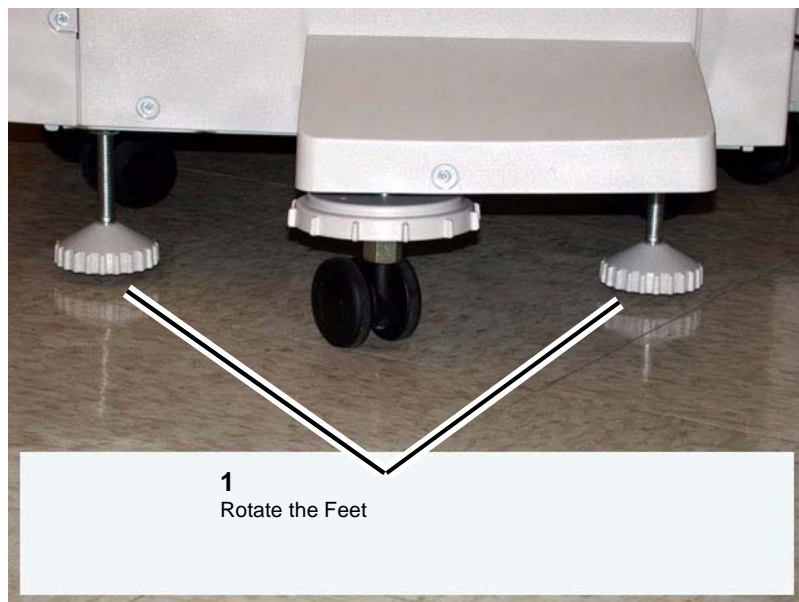

Figure 1 Finisher Feet
3. Rotate the Feet (2) to free the Finisher. (Figure 1)